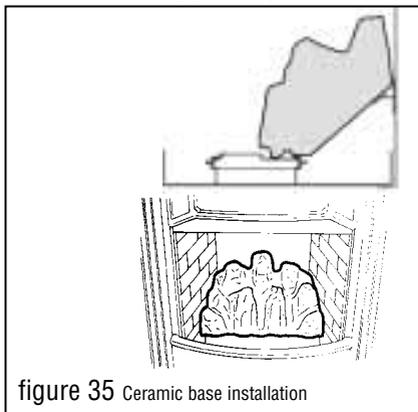

figure 35 Ceramic base installation
11.1 Place the ceramic base coal in the burner compartment. The bottom rear face of the coal should rest on the angled ledge at the back of the burner compartment. The bottom front recessed edge of the coal base should locate against the step in the burner plaques (See figure 35).